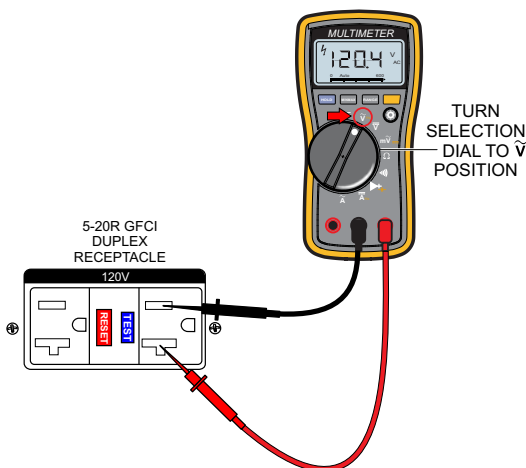

Figure 39. 120 VAC Reading
4. Using an external multimeter (voltmeter), verify that **120 VAC** is present at the GFCI receptacle as shown in Figure 39.